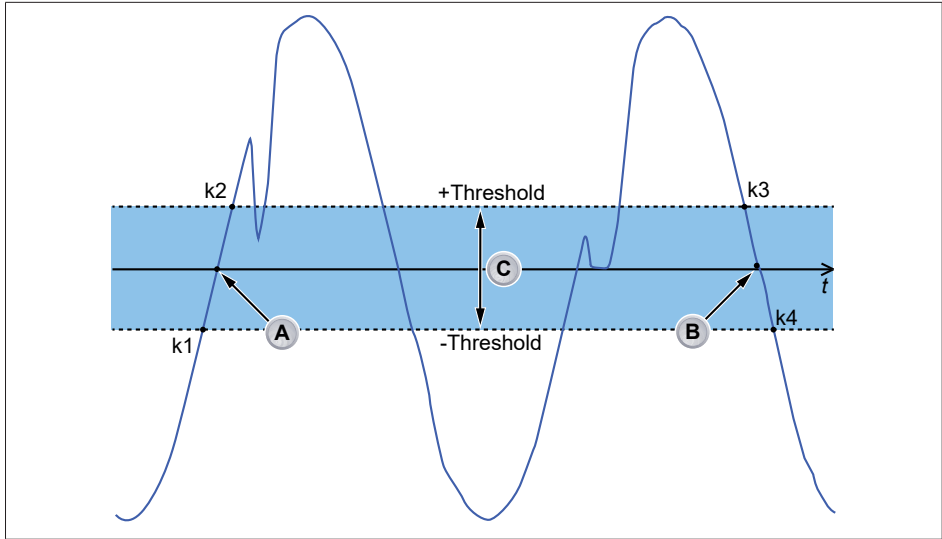

Fig. 6.1 Level crossings
The cycle detection algorithm principle works as follows (see Fig. 6.1):
- Calculate the center amplitude crossing time by linear interpolation between the samples at indices k_1 and k_2 . This crossing time detection can occur in two ways: either a rising edge crossing (point A) or a falling edge crossing (point B). See Fig. 6.1.
- Each pair of crossing times, such as times **A** and **B** of Figure 6.1, defines a cycle time segment.